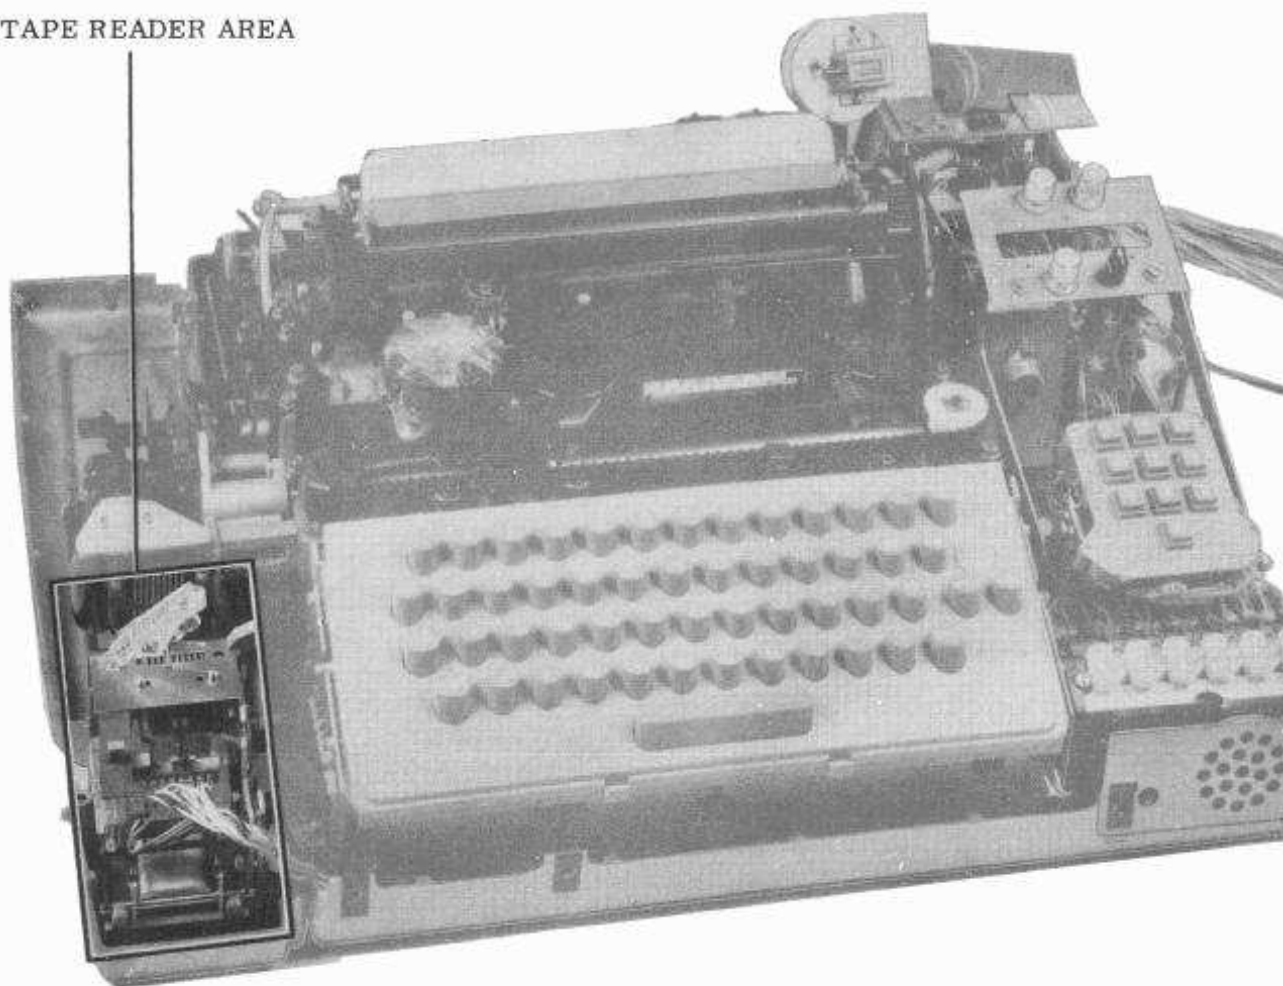

Figure 1 — Tape Reader Area
1.16 There are two areas in which tape reader adjustments and spring tensions are found. As aids in locating the areas, Figures 1 and 2 are provided. They indicate the areas as follows: